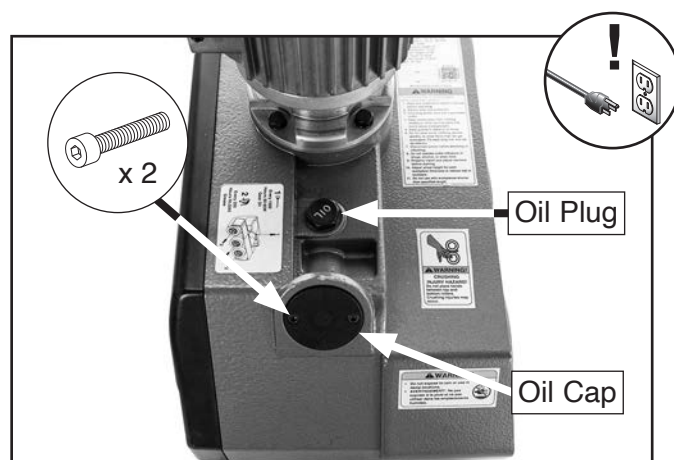

Figure 29. Location of oil plug, oil cap, and cap screws.
3. Remove oil plug (see **Figure 29**), remove (2) cap screws from oil cap, then remove cap.